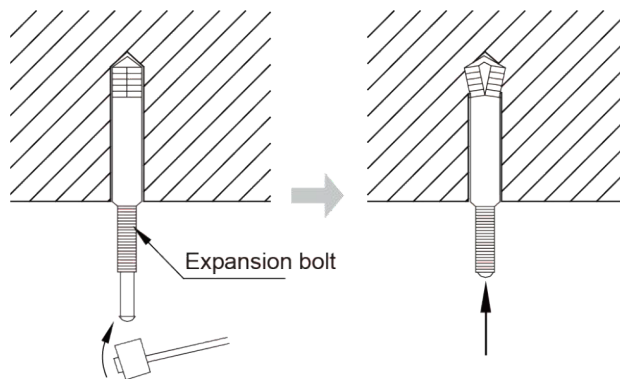

Fig 4.1.5
- 3) Insert the M10 expansion bolt into the hole and then knock the nail into the bolt, as shown in fig 4.1.5, and then remove the paper pattern.